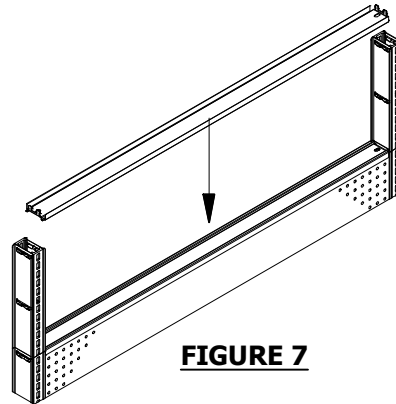

FIGURE 7
STEP 7: LAY TOP RAIL (R_T) UPSIDE DOWN ON TOP OF EXISTING TOP RAIL. **(FIGURE 7)**